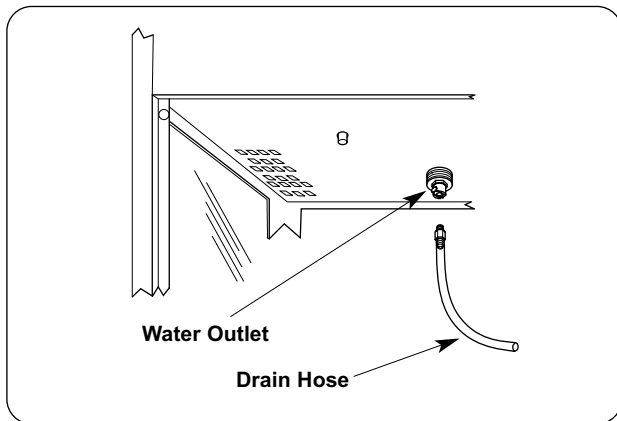

Figure 10. Draining Reservoir
1. Insert the drain hose fitting into the water outlet, located on the ceiling of the cabinet. Once the fitting is installed, water will begin to drain from the hose. (See Figure 10.)